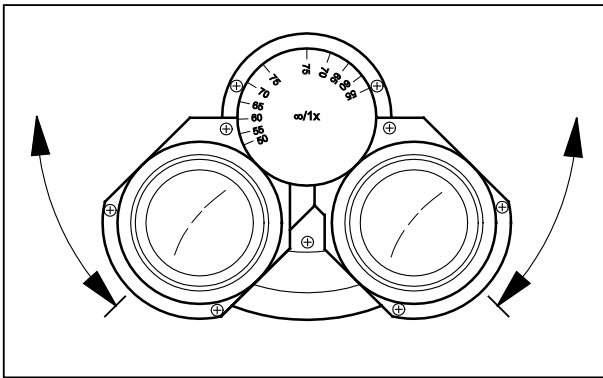

Fig. 29 Adjusting the interpupillary distance
- Rotate the eyepiece tubes symmetrically toward or away from one another to adjust the distance between the tubes to your individual interpupillary distance (Fig. 29).